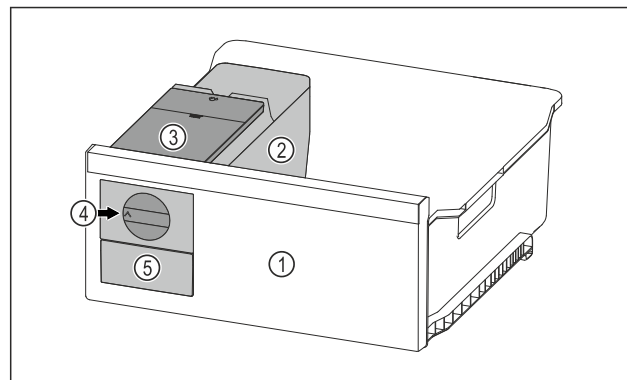

Fig. 137 Example illustration
- Turn the rotary knob Fig. 137 (4) clockwise as far as it will go.
- Ice cubes fall from the ice cube tray into the ice cube drawer Fig. 137 (5).